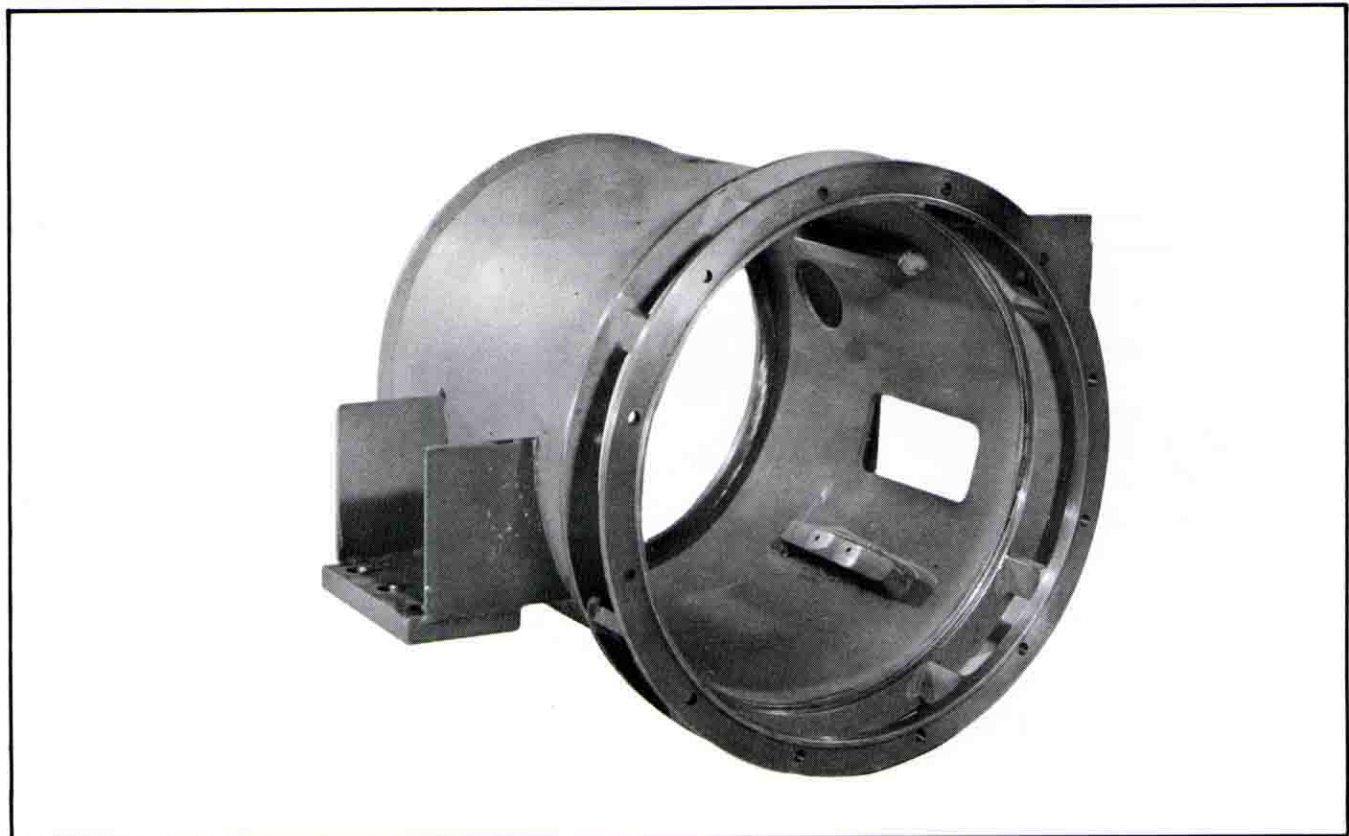

FIGURE 5. TYPICAL MAIN FRAME OF RAILROAD REFRIGERATION GENERATOR
Alternator Armature (Stator): The alternator armature (2) consists of coil groups embedded in the semi-enclosed slots of a laminated steel core. This stator and coil assembly is pressed into the main frame (26 and Figure 5) of the generator which is of fabricated steel construction. The complete assembly is usually identified as the frame, stator and coil assembly. Power leads are brought out into the large mounting foot of the frame.